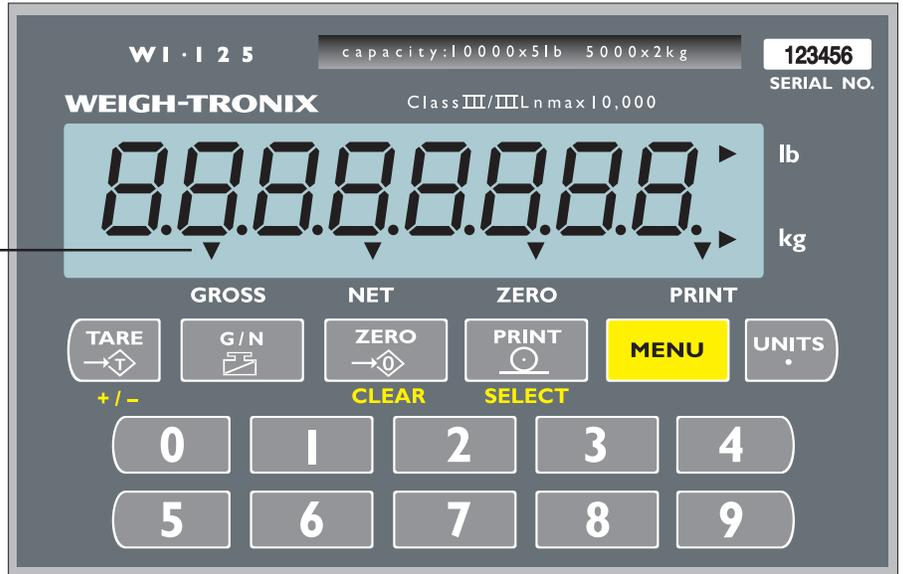

Figure 2
The indicator display, Figure 2, tells you the status of the indicator through the appearance of annunciators. In the LCD version, the annunciators are small arrows pointing to the different labels around the display face. In the LED version they are small labeled lights on the front panel.
2. If the unit is not in gross mode, press the **G/N** key once to get to gross mode. The annunciator illuminates next to gross. See Figure 2.
3. Verify the scale is empty and zero the scale by pressing the **ZERO** key. No weight is displayed and the zero annunciator illuminates. See Figure 2.